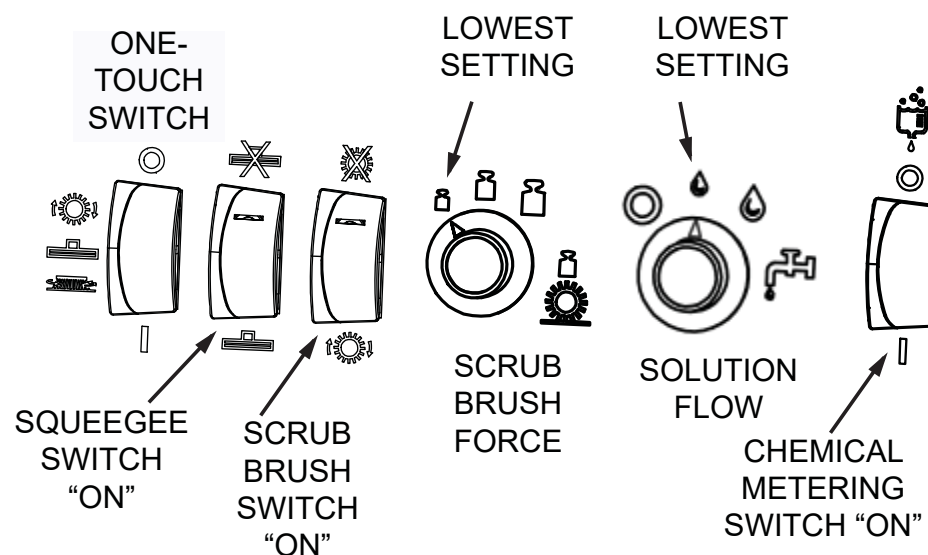

Fig. 2: Control Settings, before “One-Touch” selection
3. Ensure that the squeegee and brush switches (to the right of the green one-touch switch) are in the “on” position. Set the brush pressure switch to the lowest setting required for the scrubbing application. Set the solution control knob to the low flow position. (See Fig. 2)